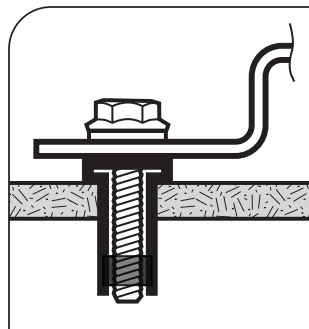

Fig. 3.6. The 5-hole mounting bracket is placed against the flange of the Well-Nut and is secured by the bolt engaging the captive brass nut.
12. Fasten the mounting brackets to the roof surface by inserting the $\frac{1}{4} \times 1\frac{1}{4}$ " serrated flange bolt into the Well-Nut (Fig. 3.6). Tighten using a $\frac{3}{8}$ " wrench to a recommended torque of 15 lbs. When the serrated flange bolt is screwed into the Well-Nut, the material surrounding the well nut bulges slightly securing the structure to the RV roof (Fig. 3.7 & 3.8).